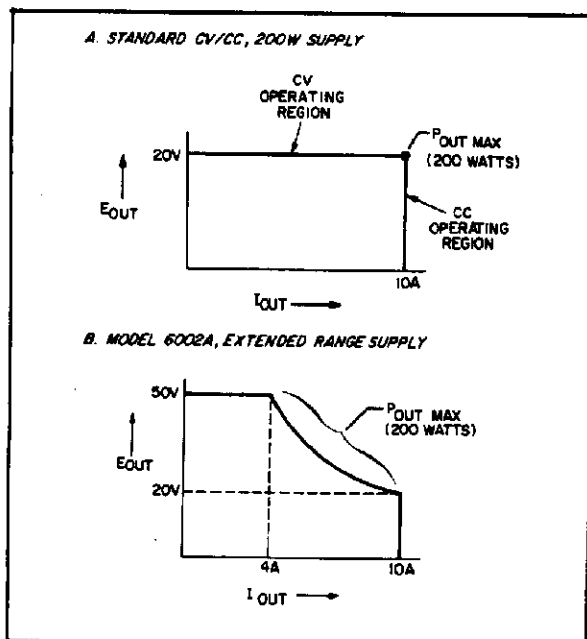

Figure 4-1. Output Characteristics,
4-2 The basic difference between a conventional Constant Voltage/Constant Current (CV/CC) power supply and an extended range supply is readily seen by comparing the output characteristic of each type. Figure 4-1 (A) shows that maximum output power (200 Watts in the example) from a standard supply can be obtained at only one point on its' rectangularly shaped locus. Maximum output power from the 6002A supply, however, is available at many points along a "constant power" curve ranging from a 50V, 4A to 20V, 10A (see Figure 4-1 (B)). Thus, one extended range supply provides maximum output power over a wide range of voltage and current combinations.
4-6 The supply can be divided into three major circuit groups: a series regulator feedback loop, an overvoltage protection "crowbar", and a tap selection and control circuit. A supplementary reference supply is also included to provide regulated and unregulated bias voltages used throughout the supply by the major circuit groups. Both the series regulator feedback loop and the overvoltage crowbar circuit are very similar to those used in many other laboratory type power supplies manufactured by Hewlett-Packard. The tap selection triacs and control logic, however, are related only to extended range power supplies. It is these circuits that govern the extended output characteristic shown in Figure 4-1 (B).
**4-26** As mentioned previously, the function of these circuits is to provide the constant power output characteristic shown on Figure 4-1 (B). To accomplish this, the circuit controls the conduction of a pair of triac switches which, in turn, control the raw dc that is applied to the series regulator. A decision to fire one, both, or neither of the triacs is made once during each half cycle of the input ac (8.33 milliseconds) based on the output voltage and current of the supply and the amplitude and frequency of the ac line.